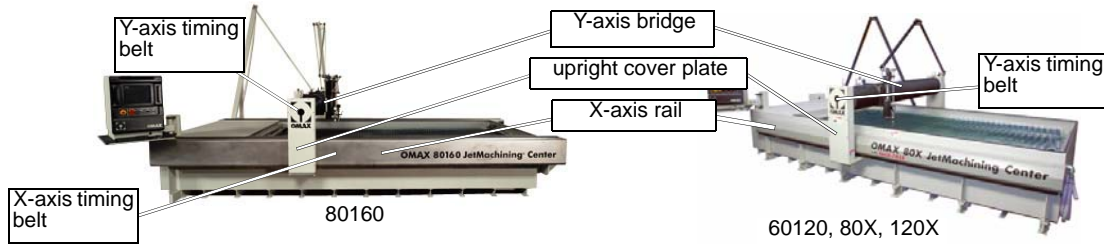
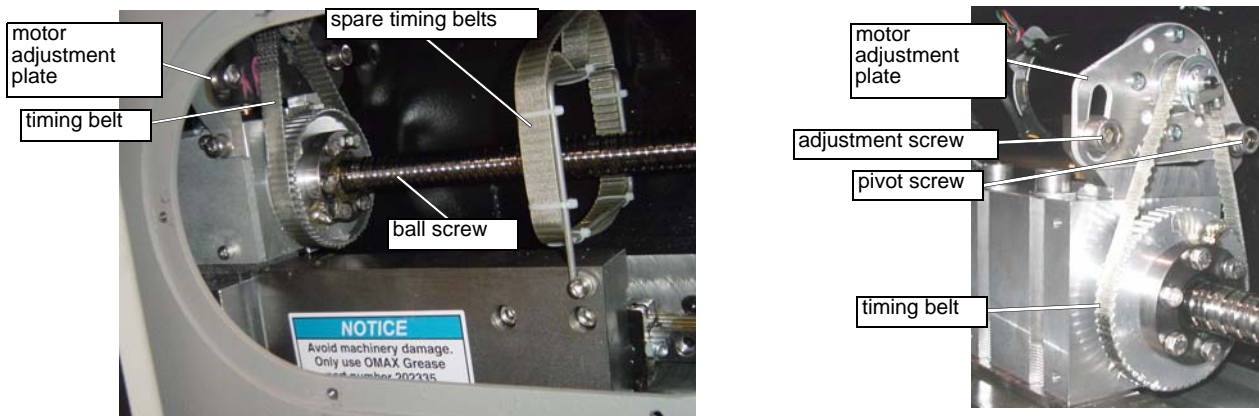

Figure 6-9: Timing Belt Locations for Bridge-style Tables
Figure 6-11: View of 80160 Timing Belt With Access Plate Removed
The 80160 uses the standard OMAX servo motor/ball screw design for its X-axis movement (Figure 6-11). Two ball screws are used for X-axis movement, one on each side of the table (Figure 6-9).
7. Remove the six screws securing the access covers to the frame. Set the all screws and both access cover plates aside, exposing the ball screws and timing belts (Figure 6-11):